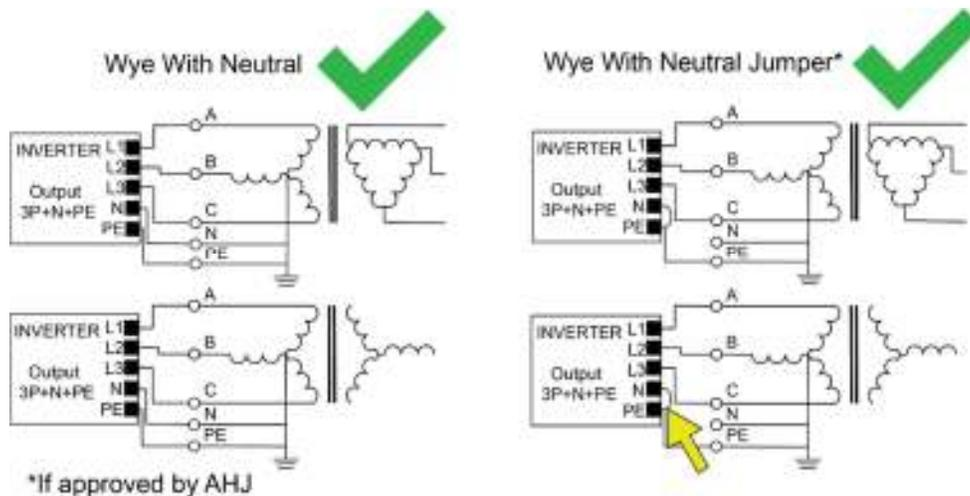
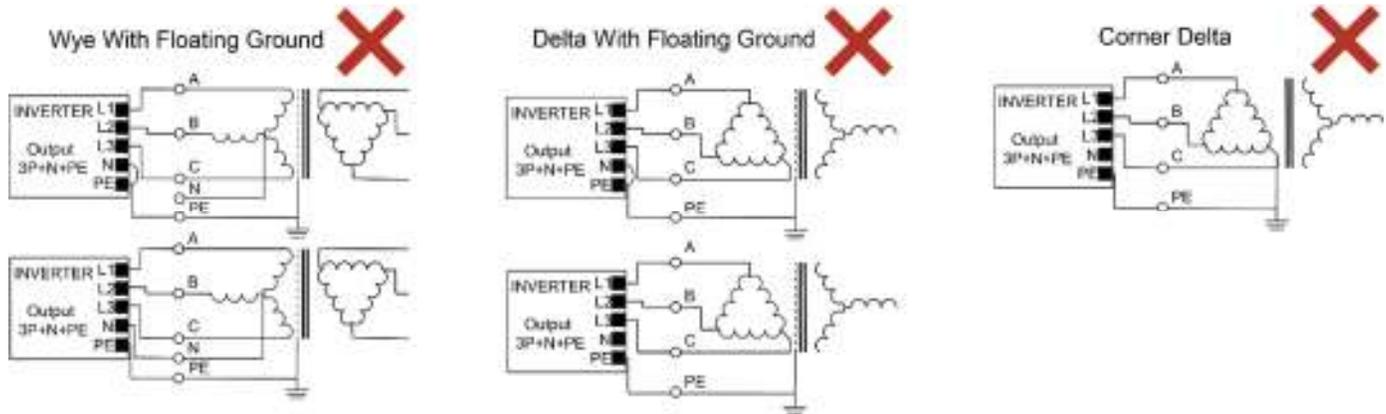

Figure 3-12 Permitted Transformer Configurations
Figure 3-13 Transformer Configurations NOT Permitted
**Improper Transformer Configuration:** Inverter will not run and may have hazardous current. Connect transformer in specified configurations only (see Figure 3-12).
The inverter side of the transformer must have a grounded Wye configuration. See Figure 3-12 for approved transformer configurations, all other configurations are not permitted. Figure 3-13 shows examples of transformers that are not acceptable.